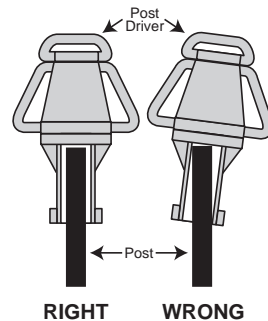

Fig. 4 - Proper alignment of driver and post.
4. Place the driver on the post to be driven. Position the driver (**Fig. 4**) aligned centered to the post. If not aligned properly, damage could be caused to the driver or the post. Slowly squeeze the air throttle valve lever to start the driver. Opening the throttle valve slowly will prevent a violent start of the driver. Never tape, wire, etc., the throttle valve lever open.